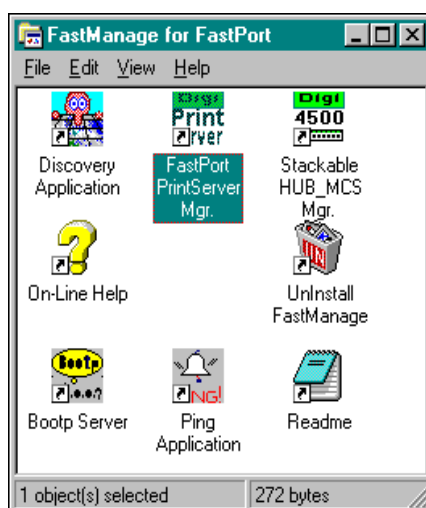

Figure 10-1. FastPort PrintServer Mgr. Icon
1. From the “FastManage for FastPort” Windows menu, double-click onto the **FastPort PrintServer Mgr.** (Figure 10-1) icon.